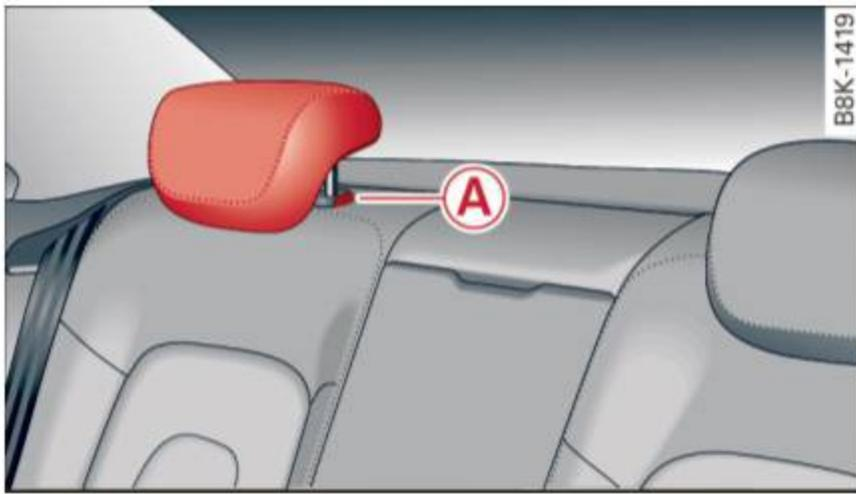
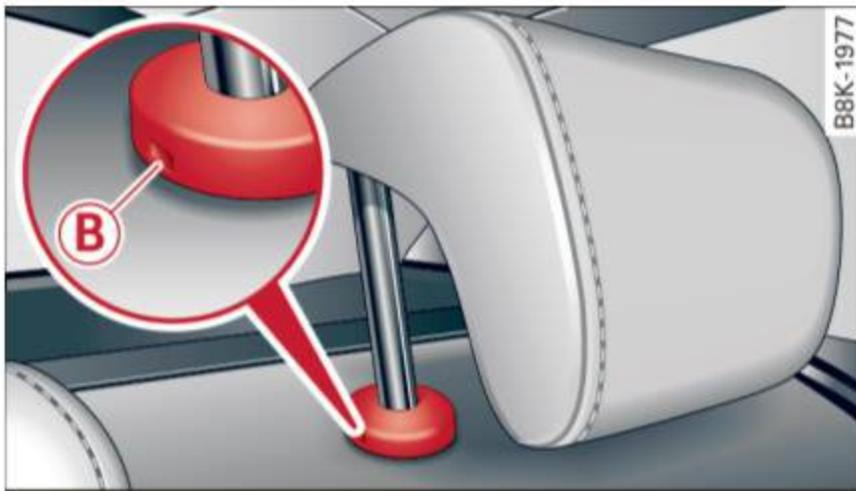

Fig. 58 Rear seats: head restraints
Fig. 59 Rear head restraints: release
- ▶ To move the head restraint down, press the button **A** ⇒ fig. 58 and slide the head restraint downward.
- ▶ Press the release **B** ⇒ fig. 59 with the mechanical key ⇒ page 33 and the button **A** ⇒ fig. 58. Pull the head restraint out of the backrest at the same time ⇒ ⚠.
- ▶ Press the button **A** ⇒ fig. 58 and slide the head restraint all the way down. You should not be able to pull the head restraint out of the backrest.